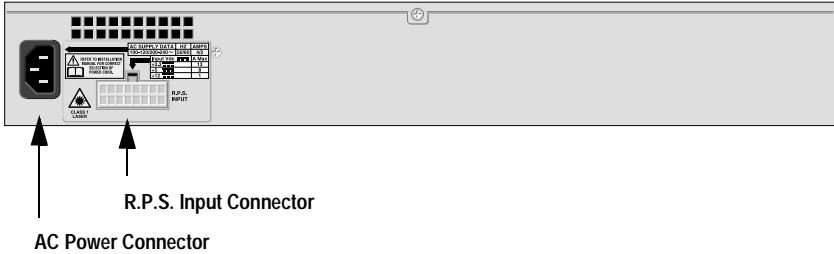

Figure 3 AT-8316F and AT-8324 Ethernet Switch Rear Panel
6. Apply AC power to the switch by plugging the power cord into the AC power connector on the back panel of the unit (shown in Figure 3) and plugging the other end into a wall outlet.
7. If you purchased a redundant power supply (RPS) unit for the Ethernet switch, connect the RPS unit to the R.P.S. Input connector (Figure 3) on the rear of the switch by following the directions included with the RPS system.
9. Apply AC power to the switch by plugging the power cord into the AC power connector on the back panel of the unit (shown in Figure 3) and plugging the other end into a wall outlet.
10. If you purchased a redundant power supply (RPS) unit for the Ethernet switch, connect the RPS unit to the R.P.S. Input connector (shown in Figure 3) on the rear of the switch by following the directions included with the RPS system.